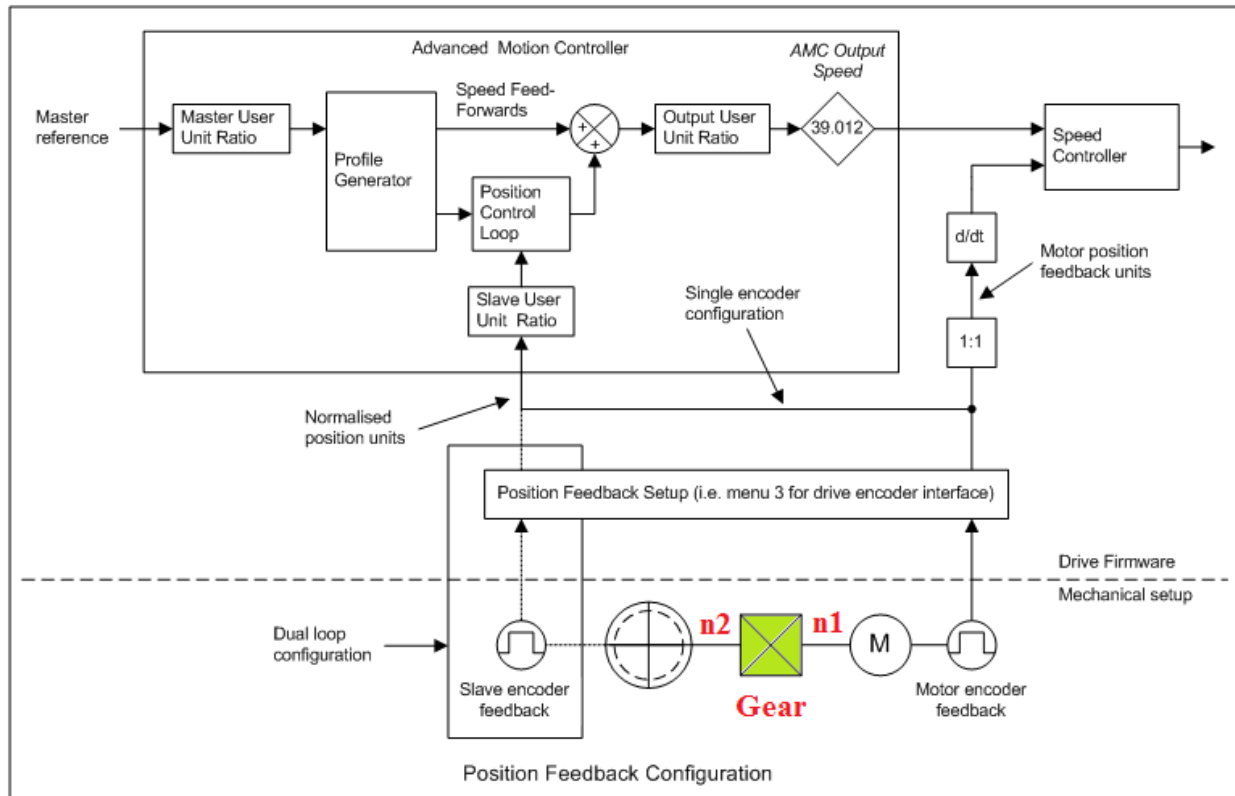

Figure 5
Another aspect is the AMC Output User Units Ratio. If we don't have a dual loop configuration (Figure 5), then the AMC Output User Units Ratio should be set to  $Pr\ 31.008 = Pr\ 31.007$  and  $Pr\ 31.009 = Pr\ 31.006$ , so if we have the AMC Slave User Units Ratio more than or equal to unity, then the AMC Output User Units Ratio is always less than or equal to unity, which provides good resolution for the *AMC Output Speed (Pr 39.012)* and gives the least granular speed output.
For a dual loop configuration (Figure 5) you need to consider a gear ratio between the slave encoder feedback and motor encoder feedback.
- There is a gear ratio of 7:1 between the motor encoder feedback and slave encoder feedback  $i = n1/n2 = 7/1$  (Figure 5);